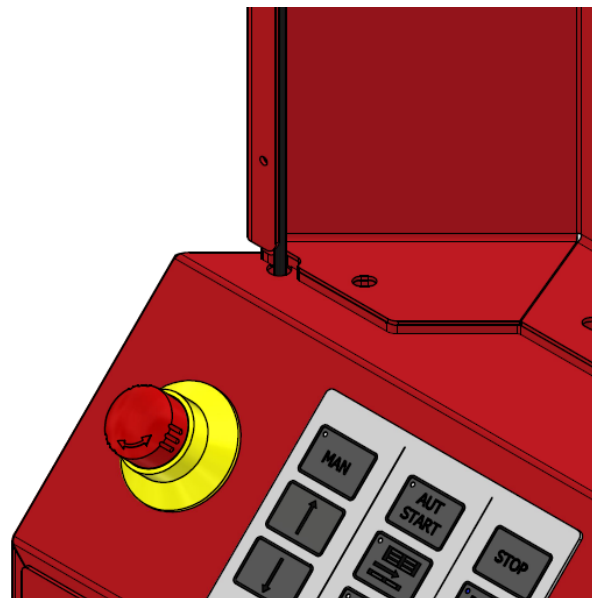

Figure 2
4. Pass the cable through the hole on the side cover, see Figure 2, and further in for installation in the electrical box.